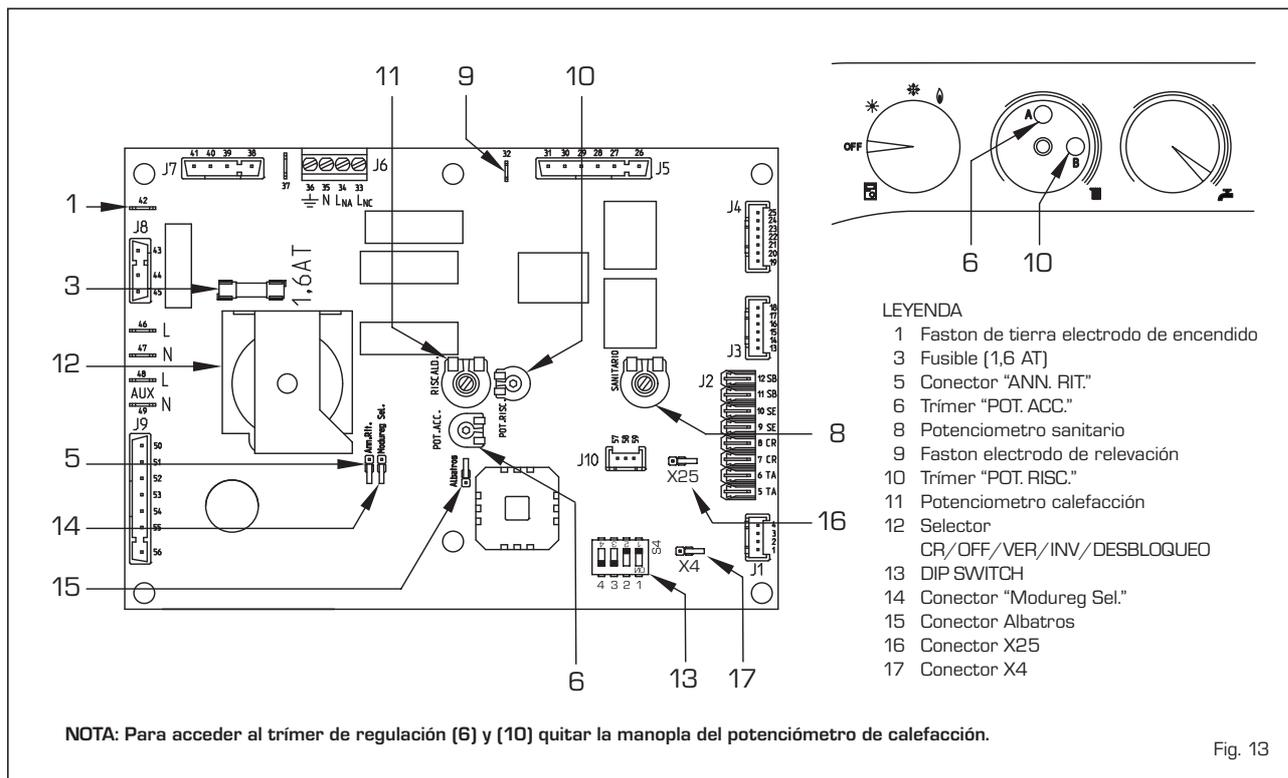

Fig. 13
- **Trimmer "POT. RISC."** (10 fig. 13)
- **Trímer "POT. ACC."** (6 fig. 13)
- **Conector "ANN. RIT."** (5 fig. 13)
- **DIP SWITCH** (13 fig. 13)
- **Conector "Modureg Sel."** (14 fig. 13)
- **Conector "Albatros"** (15 fig. 13)